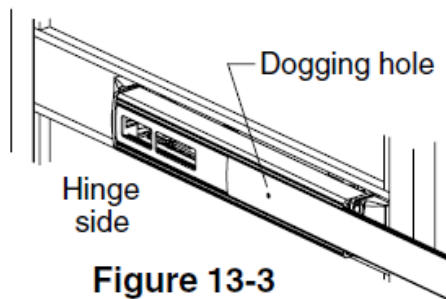

Figure 13-3
- 13.3. Slide cover plate into touchbar with dogging hole towards hinge side of device (Figure 13-3).